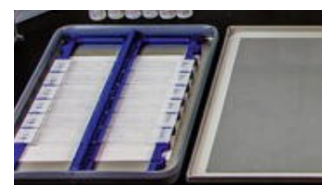

Figure 41: Hybridization Tray
- Place the slide horizontally into the hybridization tray (Figure 41).